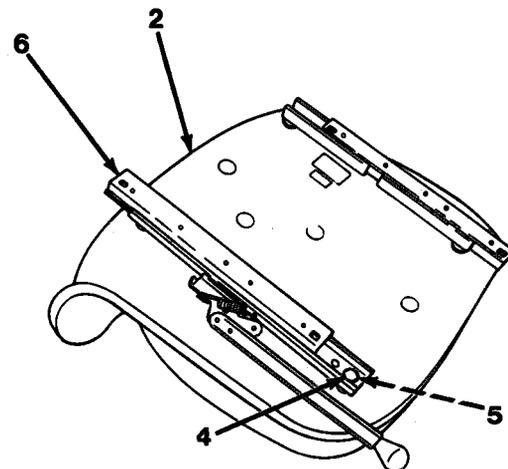

figure 14-2
1. Install four washers (5) and capscrews (4) to mount slide rails (6) to seat (2, Figure 14-2).